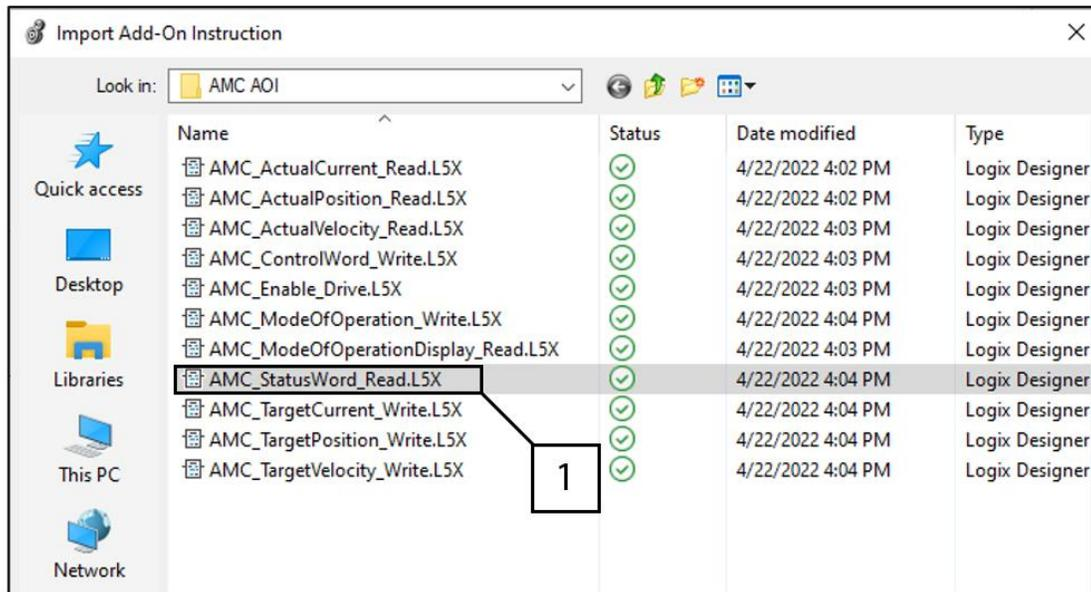
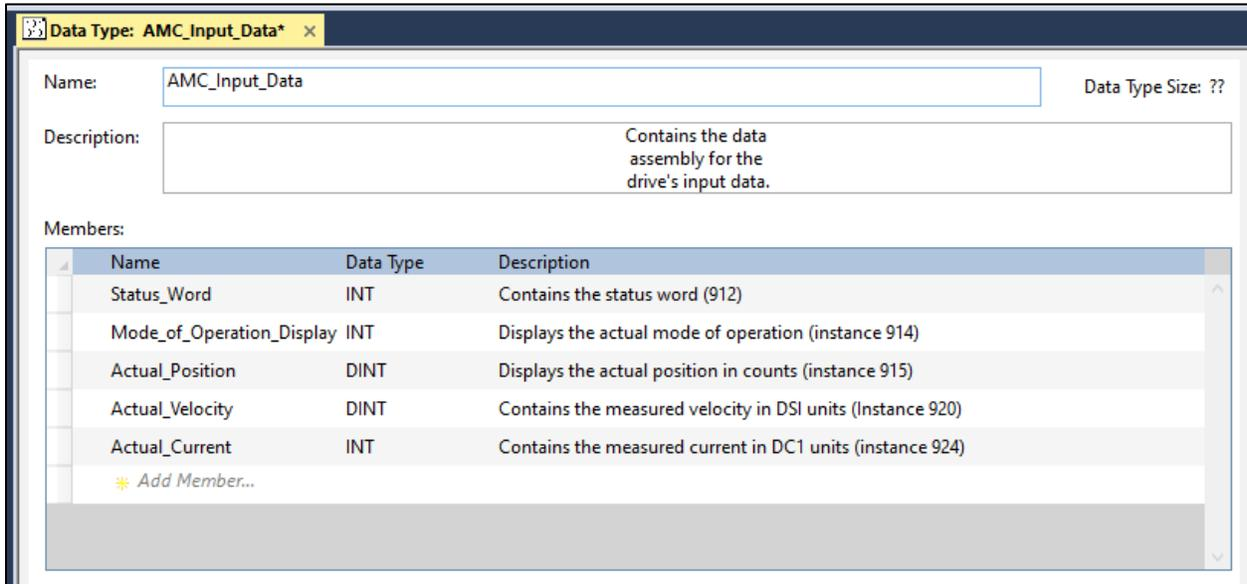
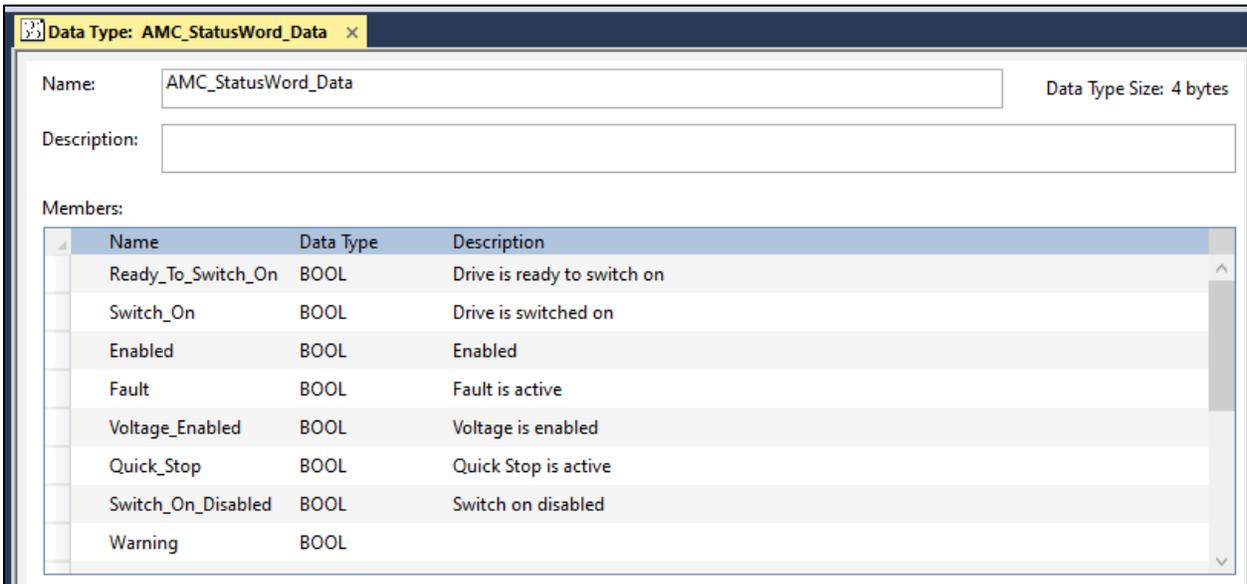
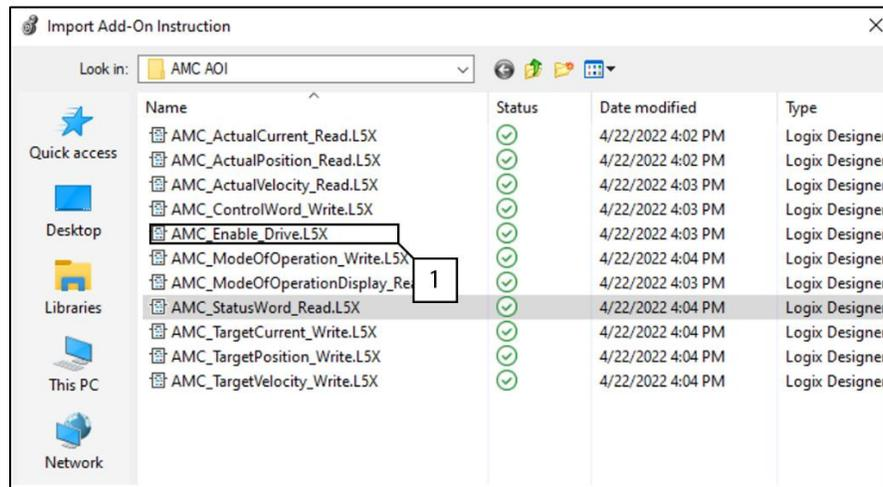

Figure 3 Import Add-On Instruction Screen
Figure 4 AMC_Input_Data Screen
Figure 5 AMC_StatusWord_Data Screen
Figure 14 Import Add-On Instruction Screen
2. From the Import Add-On Instruction screen, select **AMC_StatusWord_Read.L5X** (Figure 3 [1]). This file will also import the following data types used by the AOI to map drives input data: **AMC_Input_Data** (Figure 4) and **AMC_StatusWord_Data** (Figure 5).
2. From the Import Add-On Instruction screen, select **AMC_Enable_Drive.L5X** (Figure 14 [1]).
This document gives two examples (AMC_StatusWord_Read and AMC_Drive_Enable) of importing and configuring AOI files into the Control Organizer. If necessary, users can import and configure other additional AOI files from the “AMC AOI” folder from the “Import Add-On Instruction” screen (Figure 3 or Figure 14).